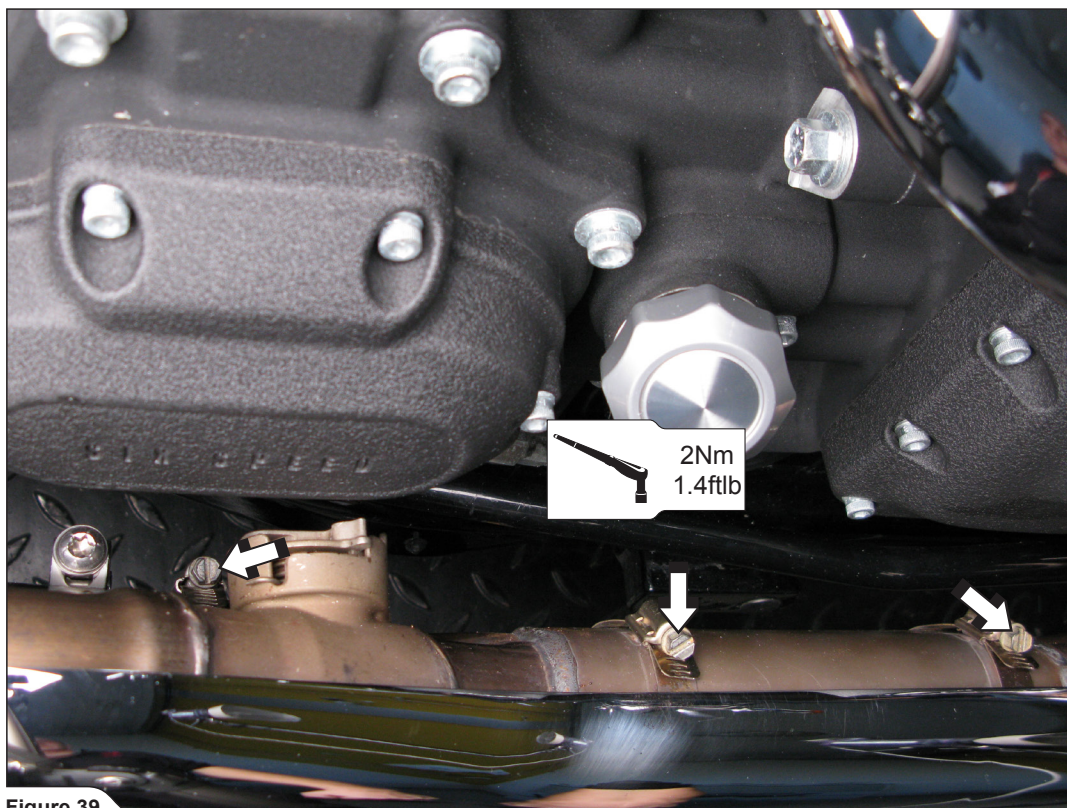

Figure 39
15. Align the original heat shield and tighten the tape clamps (Figure 39).